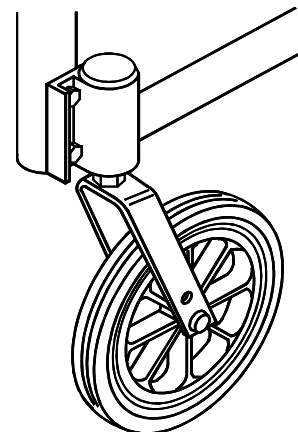

Fig. 47
The castor plate is generally mounted in a forward-facing position (1). However, if additional footrest clearance is necessary, the castor plate can be reversed (2). This will position the castor plate rearward to allow more clearance. To reverse the castor plate, the left plate should be mounted on the right side of the frame, and the right plate should be mounted on the left side of the frame (Fig. 47).